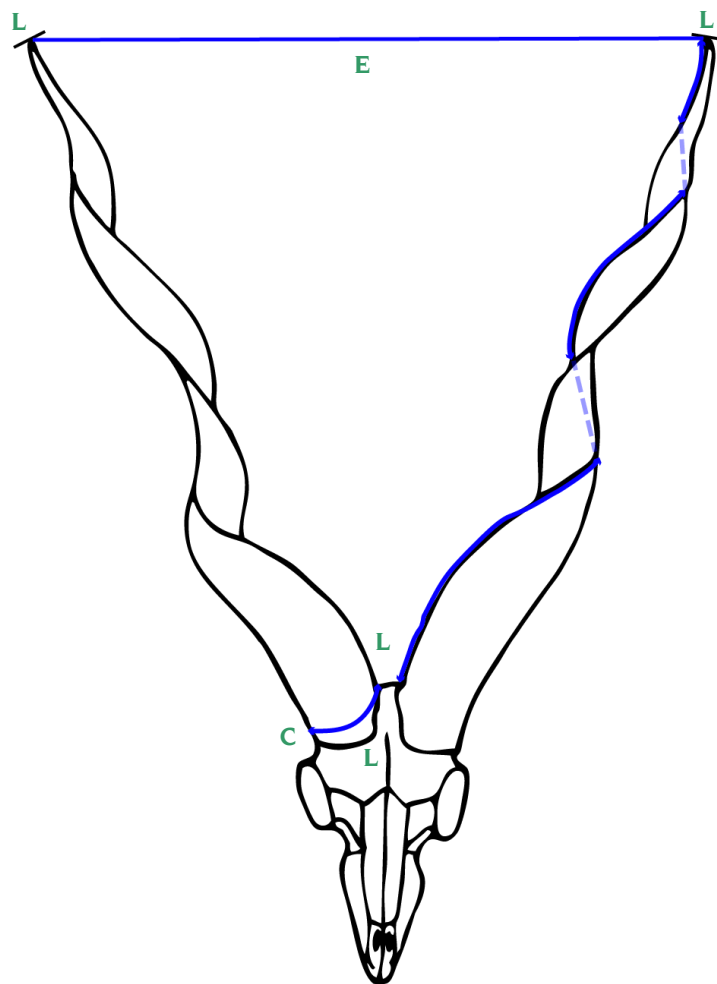

Figure 1 Medium-Curl Markhor
4. Tip to Tip. Measure the tip-to-tip value in a straight line from the center of the left horn tip to the center of the right horn tip. This is a required measurement and valuable as some sheep can display very large measurements tip to tip. (Figure 1)
1. Length. Measure each horn around the spiral by keeping the tape on top of the spiral ridge. (Figure 1) Start at the lowest point at the back of the base and proceed to the tip. Where the spiral ridge ends near the tip, proceed in a straight line to the tip and do not continue to spiral. Note; do not start the tape on the front of the horn and then move towards the back ridge, start the tape at the base on the back ridge.